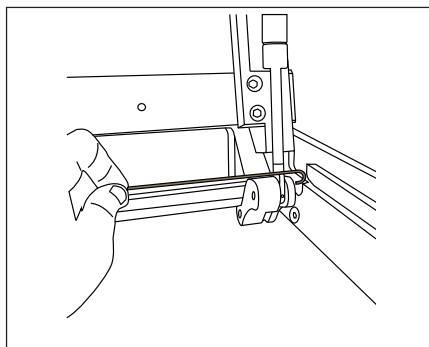

Fig.22
- Remove pins and replace the piston (to pull out the pin use an iron hook) (fig. 22);
- Remove pins and replace the piston (to pull out the pin use an iron hook) (example fig. 22);